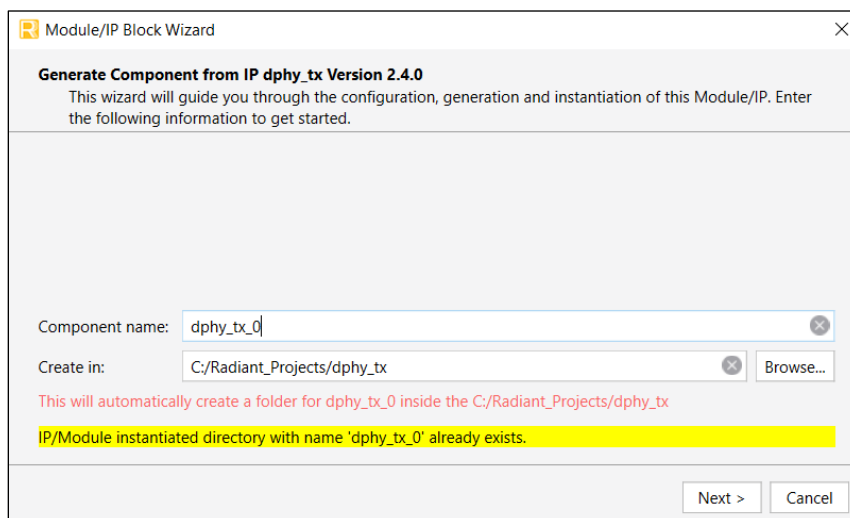

Figure 7.1. Module/IP Block Wizard
2. In the **IP Catalog** tab, double-click **CSI-2/DSI D-PHY Transmitter** under **IP, Audio_Video_and_Image_Processing** category. The **Module/IP Block Wizard** opens as shown in Figure 7.1. Enter values in the **Component name** and the **Create in** fields and click **Next**.
- Click **Finish**. All the generated files are placed under the directory paths in the **Create in** and the **Component name** fields shown in Figure 7.1.